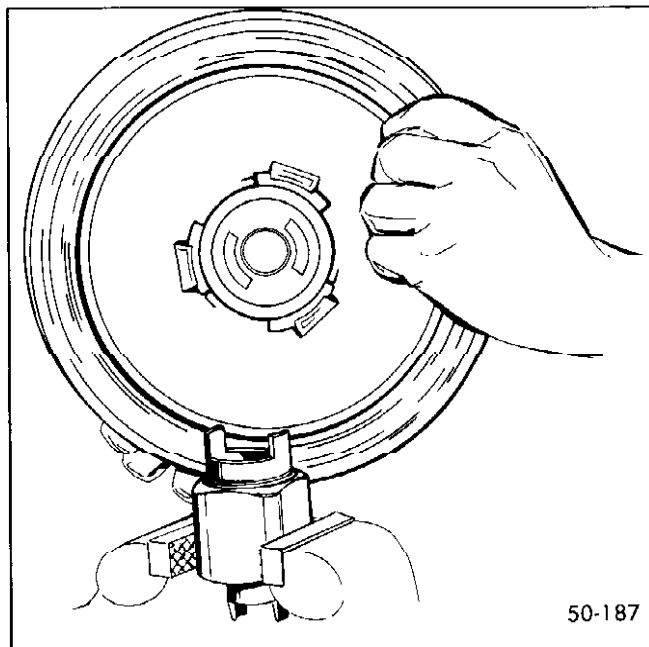

Figure 50-80 Positioning Primary Power Piston In Tool J-23101 (Small Dia. End Up) Mounted In Vise
10. Mount tool J-23101 in a vise (*with small diameter end up*). Position the primary power piston so that the two radial slots in the piston fit over the ears (tang) of the tool. See Figure 50-80.
16. Mount Tool J-23101 (small diameter end up) in a vise. Position the primary power piston so that the two radial slots in the piston fit over the ears (tang) of the tool. See Figure 50-80.